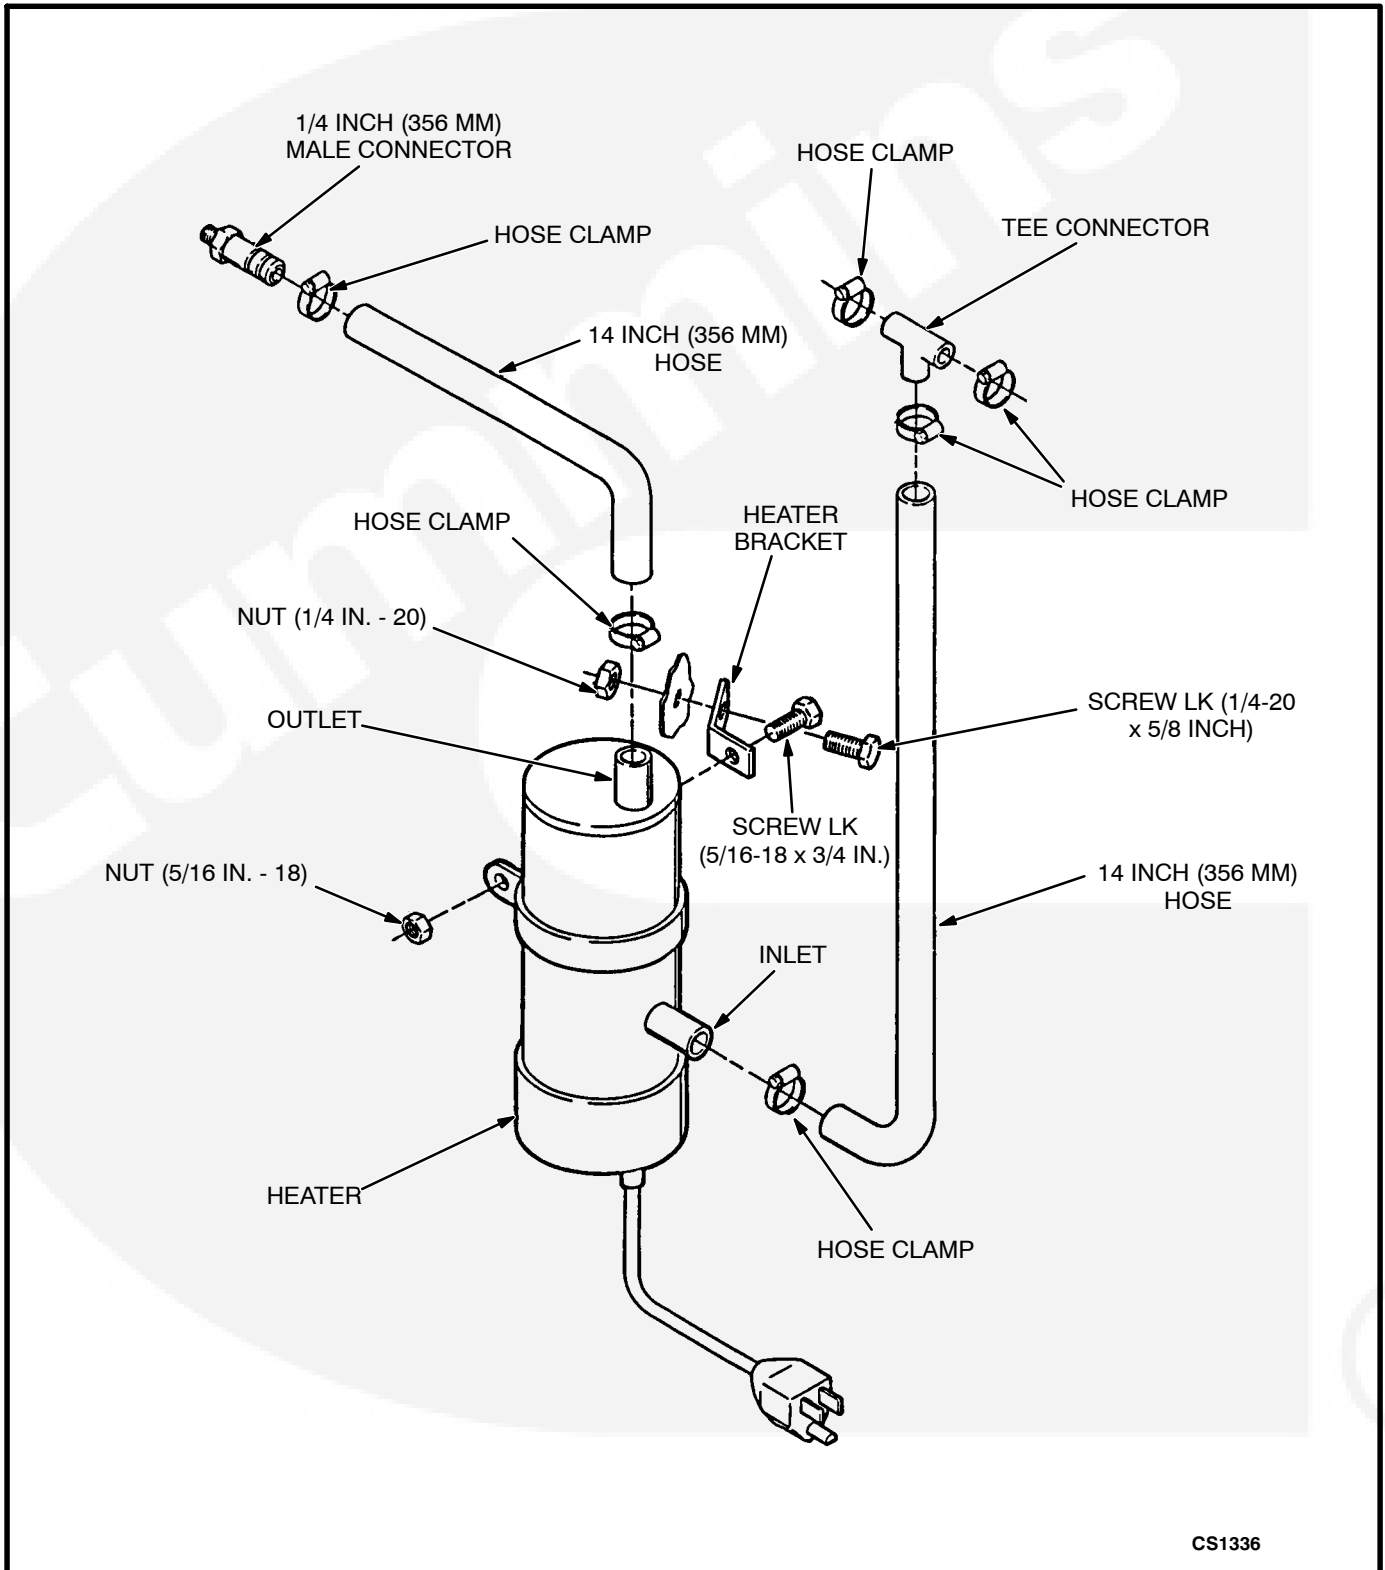

FIGURE 1. COOLANT HEATER INSTALLATION
- Install heater (Item 1) on the right side of radiator using attached mounting bracket and 1/4-20 lock screw and nut (Items 2 and 3). See Table 1 for part item numbers and Figure 1 for parts location.